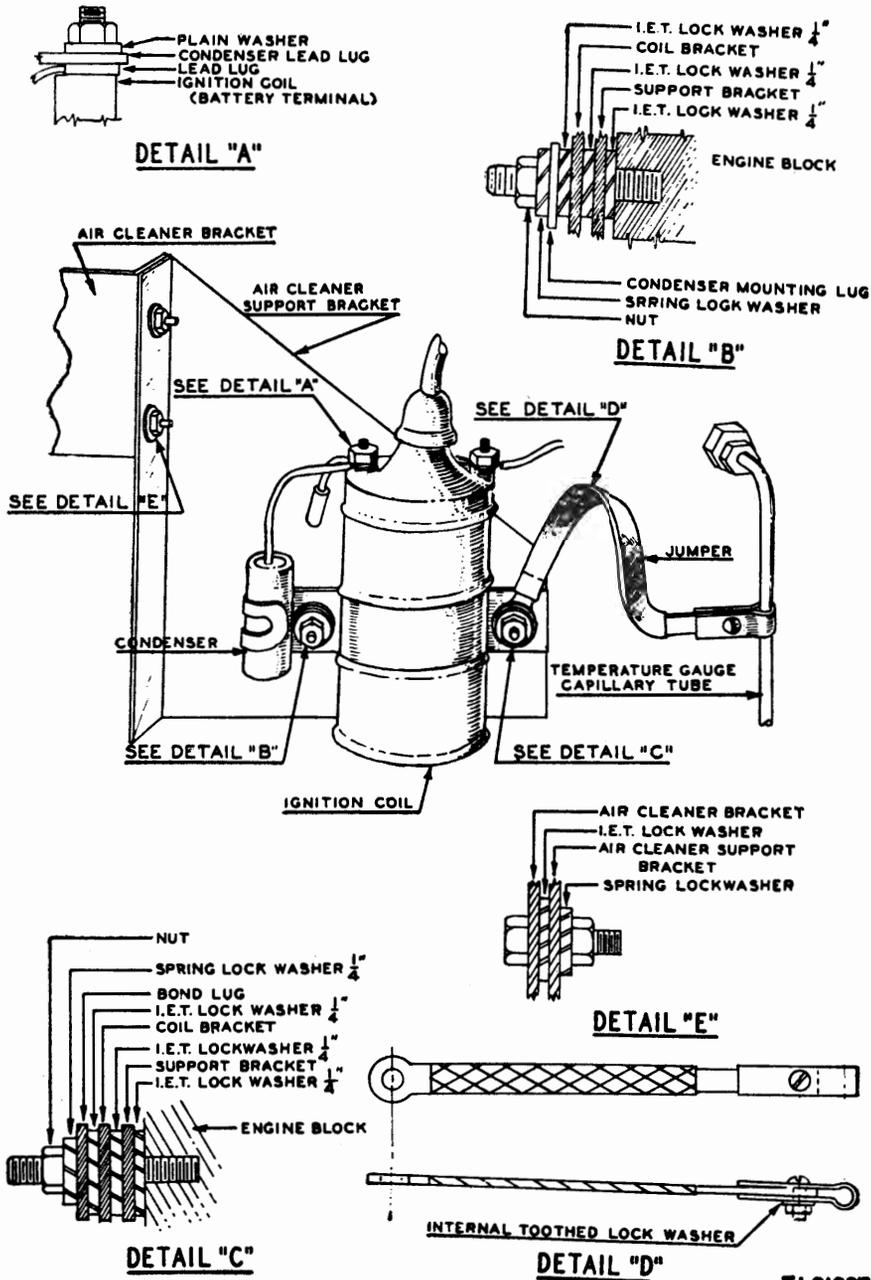

Figure 54. Ignition coil and capillary tube, suppression details.
(3) A bonding jumper is connected between the temperature gauge capillary tube and the nearer mounting screw of the ignition coil (fig. 54).
(4) The ignition-coil bracket is bonded to the air-cleaner support bracket by two $\frac{1}{4}$ -inch internal-external tooth lockwashers (fig. 54).
(5) The air-cleaner support bracket is bonded to the engine block by two $\frac{1}{4}$ -inch internal-external tooth lockwashers (fig. 54).
(6) The air-cleaner bracket is bonded to the air-cleaner support bracket by two $\frac{1}{4}$ -inch internal-external tooth lockwashers (fig. 54).